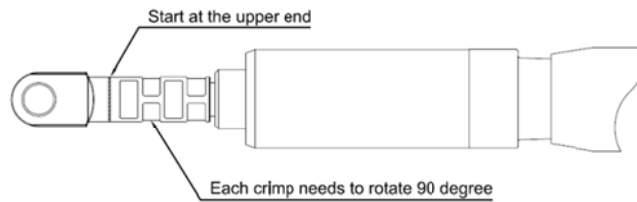

Fig. 11
Step 11. Remove PVC tape on conductor and clean conductor. Slide compression lug down the cable conductor. Ensure that each lug face is parallel to equipment bushing or lug connection interface. Crimp terminal lug according to manufacturer recommendations. Start at the upper end as Fig. 11. Each crimp needs to rotate 90 degree.